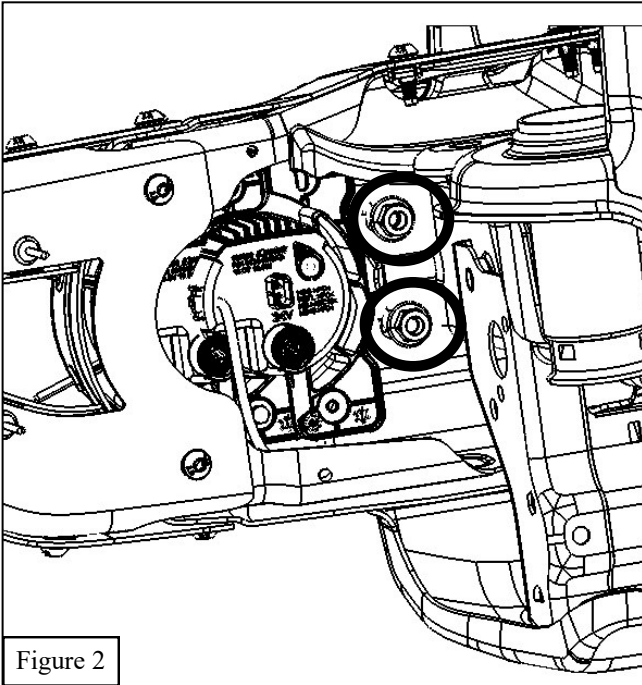

Figure 2
4. Remove the 4 OEM nuts on each side of the frame that secure the bumper to the vehicle. See **Figures 2 & 3** for reference.
**Factory Fog Lights (OEM Plastic Bumpers):** Use the supplied M4 hardware to secure the bracket to the bumper. See **Figure 2** for reference. See **Page 4** for Rubicon Plastic Bumper applications. **Note:** Light not shown.
1. Loosely install the LED mounting tabs (Item 2) to the front bumper assembly (Item 1) using the supplied M6 hardware (Items 7-8). See **Figure 1** for reference. **Note:** *The mounting tabs can be installed at a range of distances from one another in order to accommodate the width of the light bar. Figure 2 shows the mounting tabs arranged in a wide configuration while Figure 3 shows them arranged in a narrow configuration.*